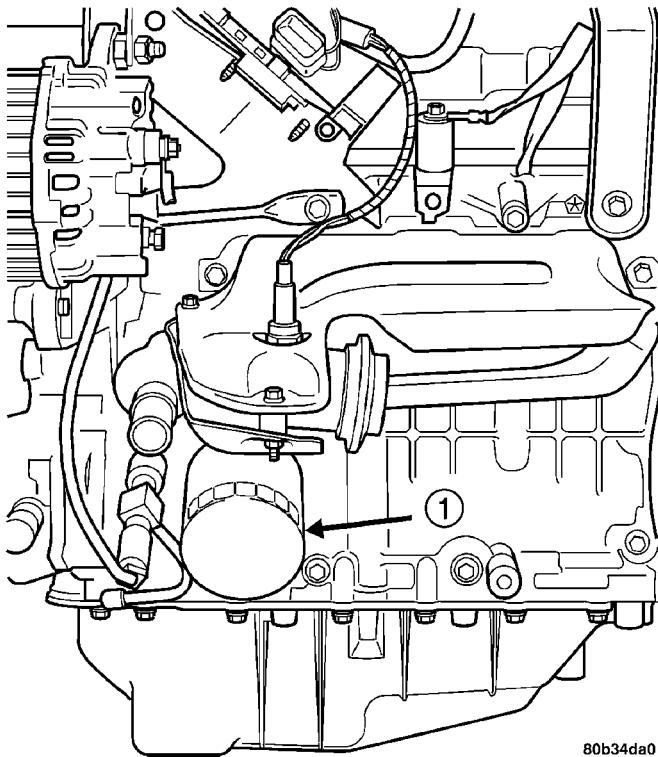

Fig. 103 OIL FILTER
(1) Using a suitable oil filter wrench, unscrew filter from base and discard (Fig. 103).
- Install and tighten filter to 16 N·m (12 ft. lbs.) of torque after gasket contacts base (Fig. 103). Use filter wrench if necessary.